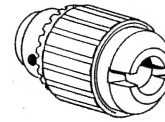

Fig. 5
2. For geared chucks which are tang driven (type of chuck used on $\frac{1}{2}$ " drill, see Fig. 5). Open chuck jaws all the way to gain access to the cap screw inside chuck (see Fig. 6). Insert hex wrench and remove cap screw (right hand thread). Pull chuck straight off spindle. Do not try to unscrew chuck.